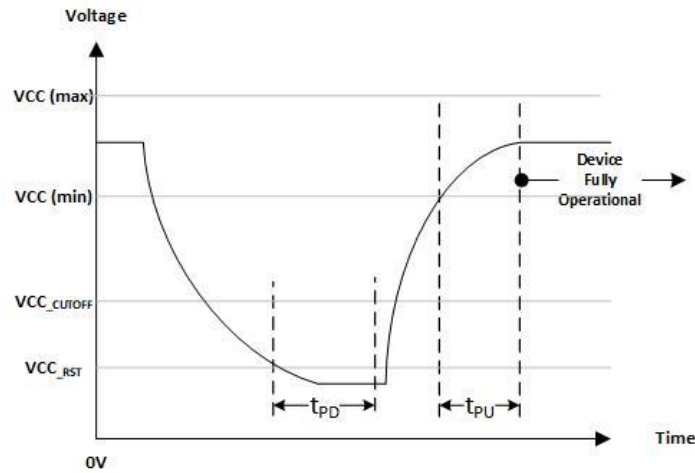

Figure 8: Power-Down Behavior
- The device must not be selected at power-up (a 10KΩ pull-up Resistor to VCCIO on CS# is recommended). Then a further delay of tPU (Figure 8) until VCC reaches VCC(minimum) .
- During Power-up, recovering from power loss or brownout, a delay of tPU is required before normal operation commences (Figure 8).